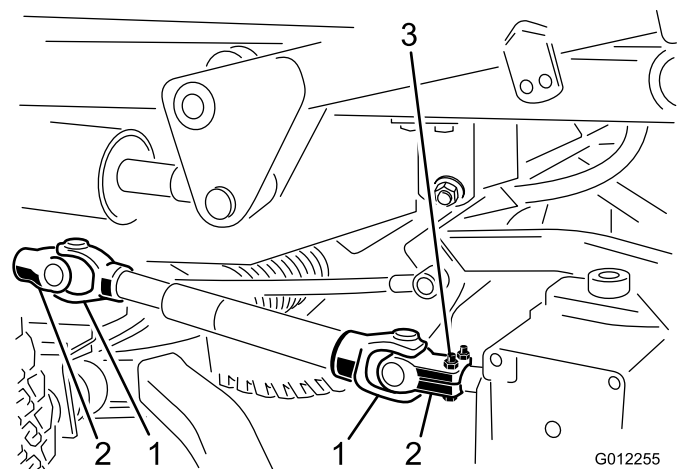

Figure 19
3. Drive out the roll pin securing the drive shaft yoke to the input shaft of the gear box (Figure 19). Loosen the capscrews and locknuts and slide the yoke off of the input shaft. If the traction unit will be used without the cutting unit, drive the roll pin out of the yoke at traction unit PTO shaft and remove the entire drive shaft from the traction unit.